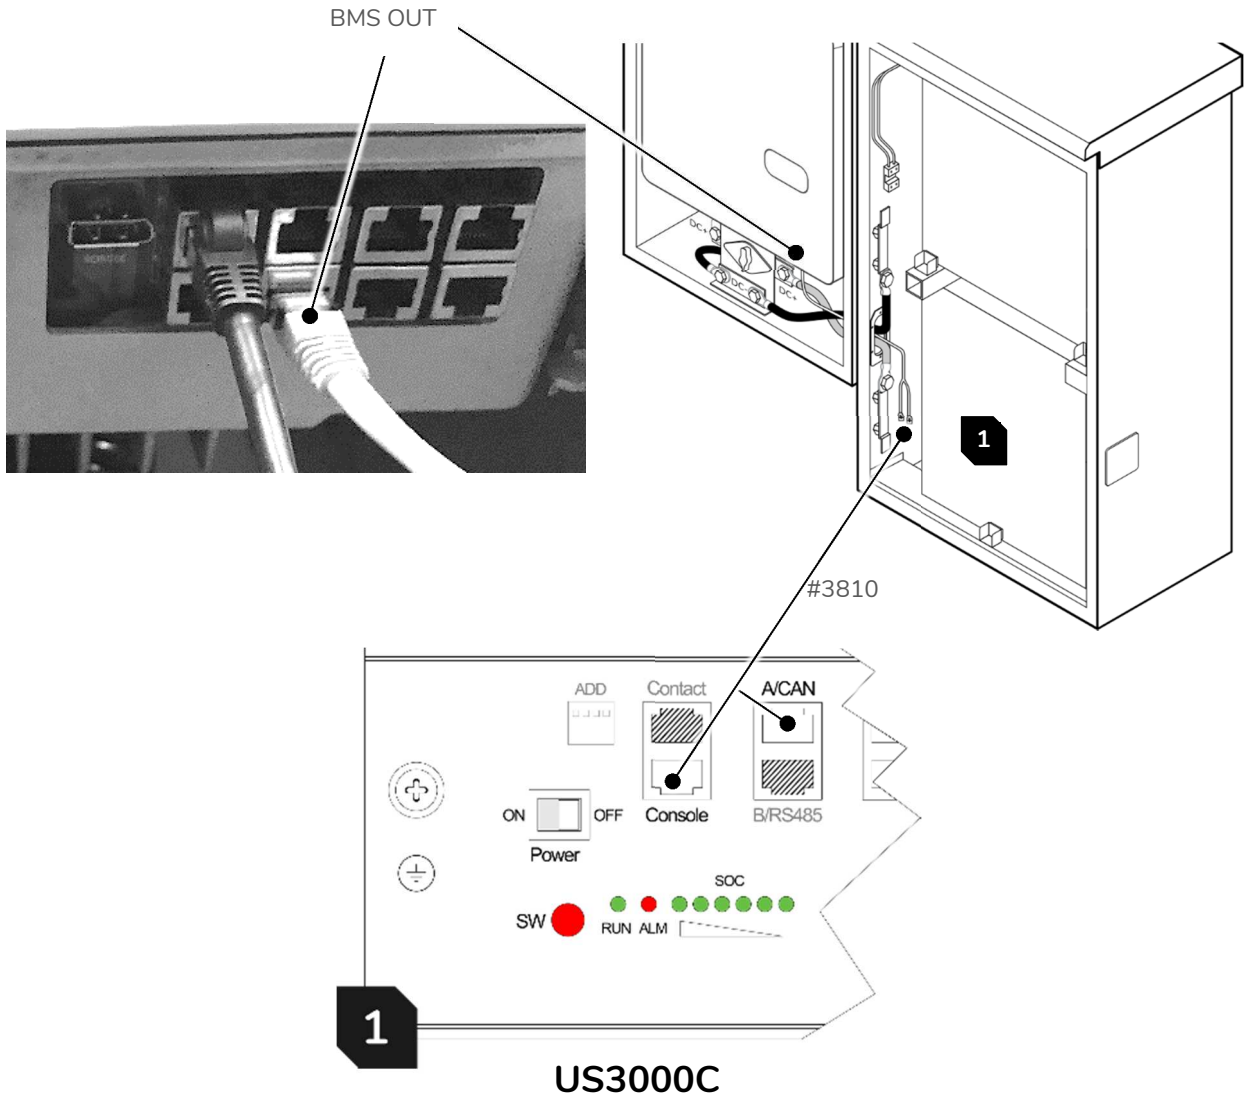

Figure 11: PCS to BMS communication cable connection.
2. Press and hold the Start button on the master battery module for 0.5 seconds. The master battery is the lower-front module in the battery cabinet. Wait for the battery module to initialize to the normal/idle state. See also figure 11, module position 1 for reference.